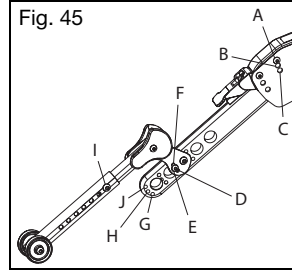

Fig. 45
- a. Use a 3mm Allen wrench and an 8mm wrench or socket to remove the angle adjustment screw and nut (Fig. 45:C).
- a. Use a 4mm Allen wrench and a 10mm wrench or socket and remove the extension screw and nut (Fig. 45:I).